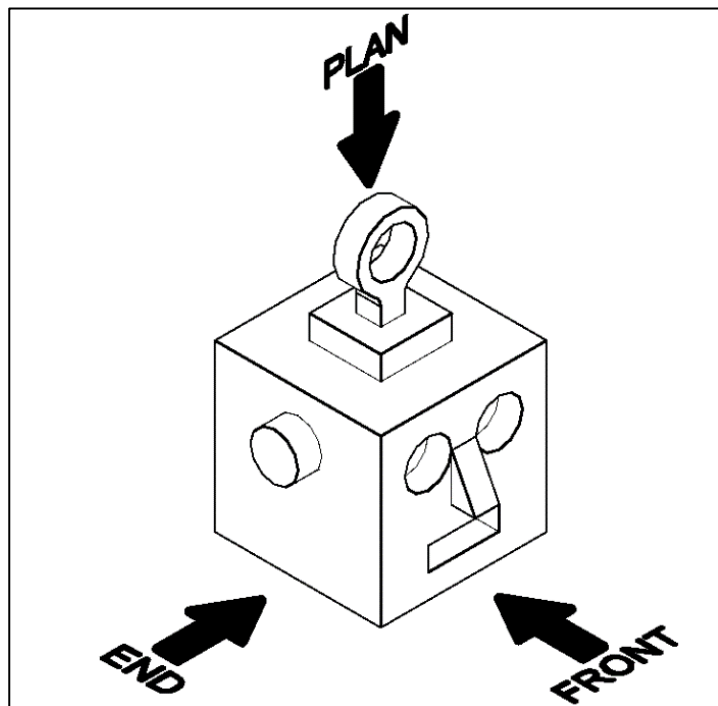

Figure 7
a. Thermo-chromic pigments change \_\_\_\_\_ when the \_\_\_\_\_ changes. (1)
b. Shape Memory Alloys (SMAs) are a collection of metal alloys that can return to their original formed shape with \_\_\_\_\_ after they are \_\_\_\_\_. (1)
17. A robotics section at the Science Fair exhibited robots of different shapes and sizes. Figure 7 shows a robot’s head.
a. In the space provided sketch neatly the End view of one of the robots’ head as seen in Figure 7. Centrelines lines should be included in the answer.
End view sketch of Figure 7: